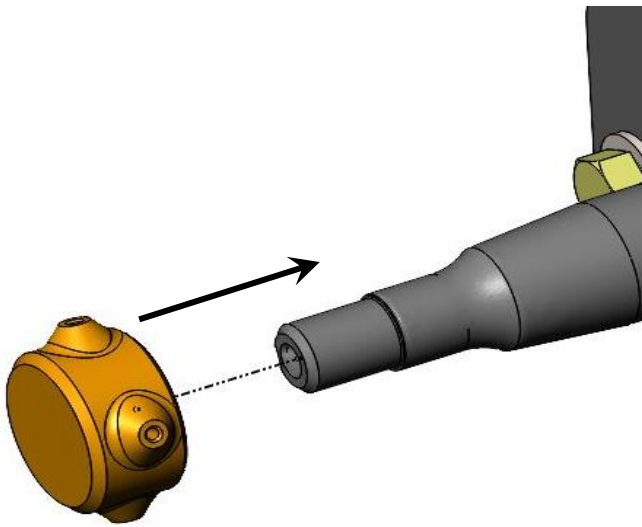

Figure 3a – 3D Printed Drill Fixture Installation
- On the LH spindle you must drill a cotter pin hole. This is because the OEM speedometer cable assembly components held the OEM hub on. A 3D printed drill fixture has been provided to ease this process. Slide the 3D printed drill fixture onto the spindle pin, making sure to gently tap it to make sure it is fully seated on the spindle pin. While holding the fixture against the spindle pin, use a drill with a 1/8" drill bit to mark the 4 locations to be drilled through the holes on the fixture. After the holes are slightly marked with the drill bit, remove the fixture, and completely drill the holes. See Figures 3a and 3b below for reference.